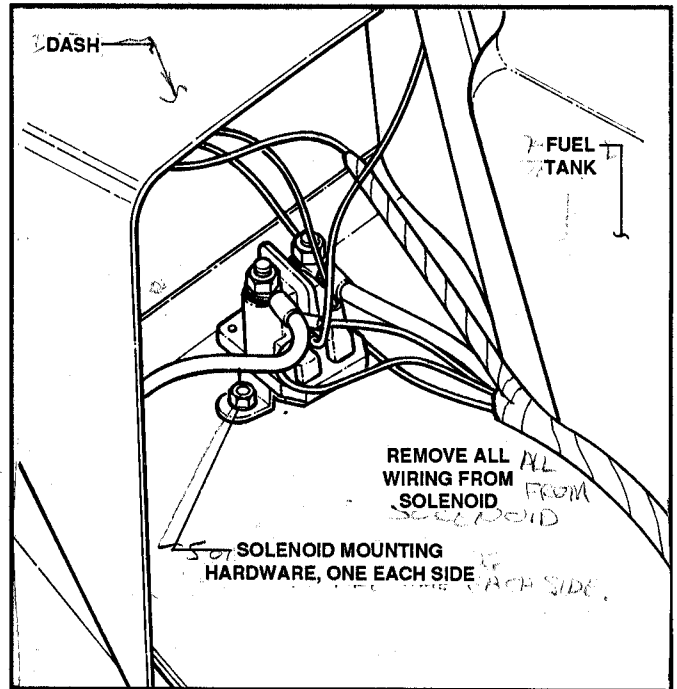

FIGURE 6.7
2. Remove all wire connections from the solenoid. See Figure 6.7.